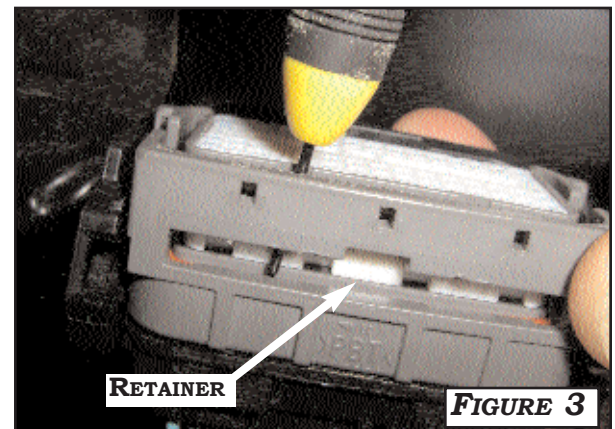

FIGURE 3
3. USE A PRECISION TOOL OR SMALL SCREWDRIVER TO RELEASE THE RETAINER OF THE CONNECTOR. **FIGURE 3.** REMOVE THE PLASTIC INSERTS IN PINS **24,8,** AND **10.**